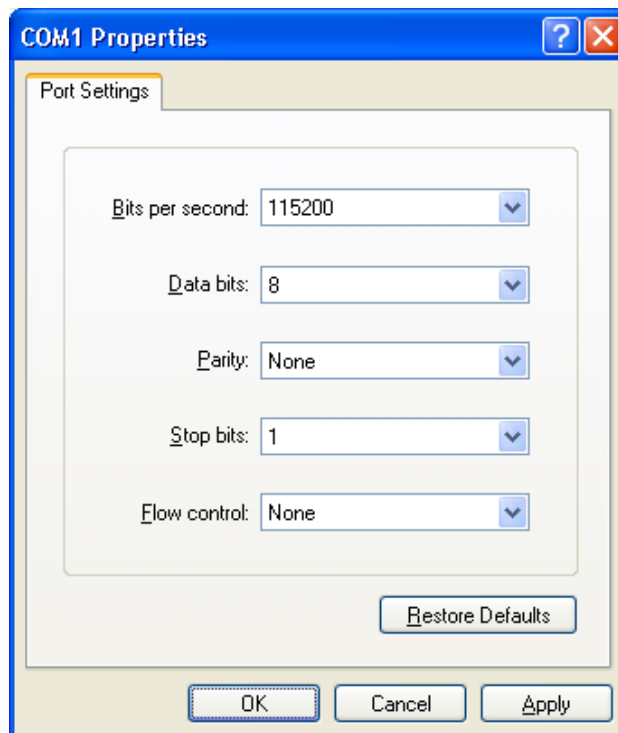

Figure 7. Example Application - HyperTerminal Settings
On the PC, set up HyperTerminal to use the COM port at 115200 baud, 8-N-1, and no flow control as shown in Figure 7. Detailed setup instructions are shown below.
4. Set up the COM1 Properties dialog as shown in Figure 7, and click OK.